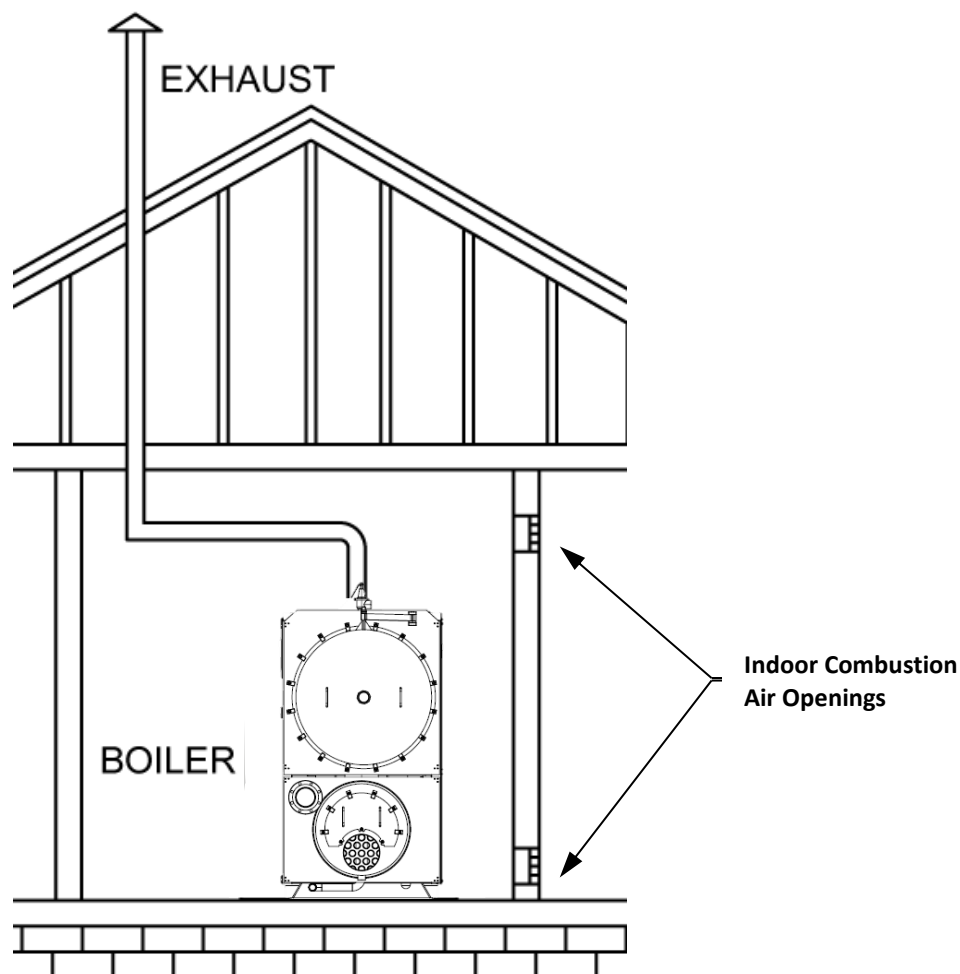

Figure 2: All Combustion Air from Adjacent Indoor Spaces through Indoor Combustion Air Openings
- One opening shall commence within 12 inches (300 mm) of the top of the enclosure, and one opening shall commence within 12 inches (300 mm) of the bottom. (See Figure 2).